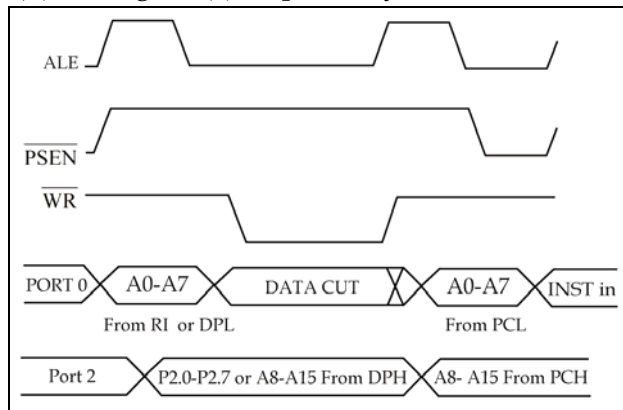

Fig. 2.5(e)
- Now the timing waveforms of external data memory for read and write cycles are as shown in fig. 2.5(d) and fig. 2.5(e) respectively.